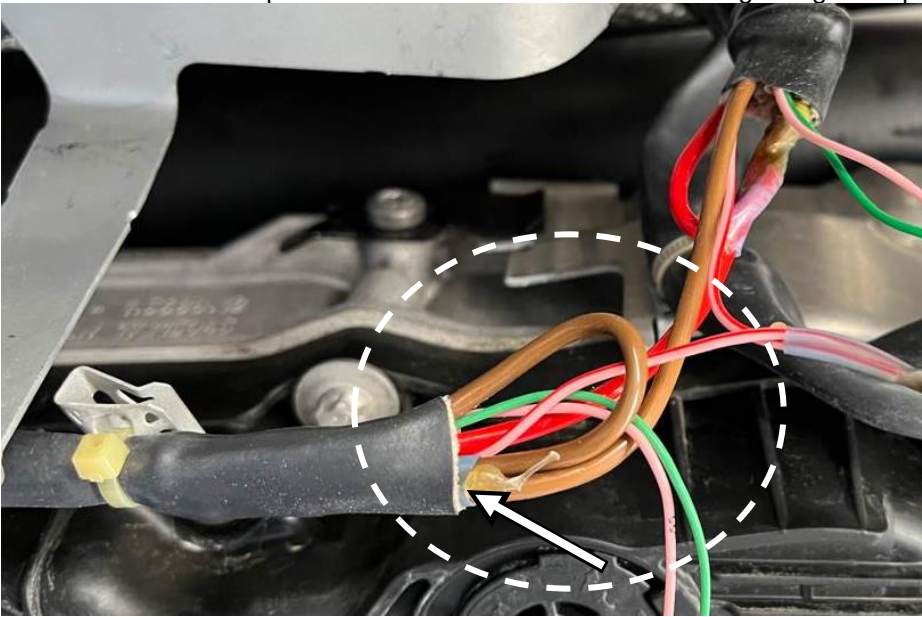

Figure 9
10. Remove the soldering end sleeve from the fabric protective hose, solder both stripped and twisted brown cable ends using a heat gun and reinsert it as far as possible into the fabric protected hose after cooling (**Figure 9**).